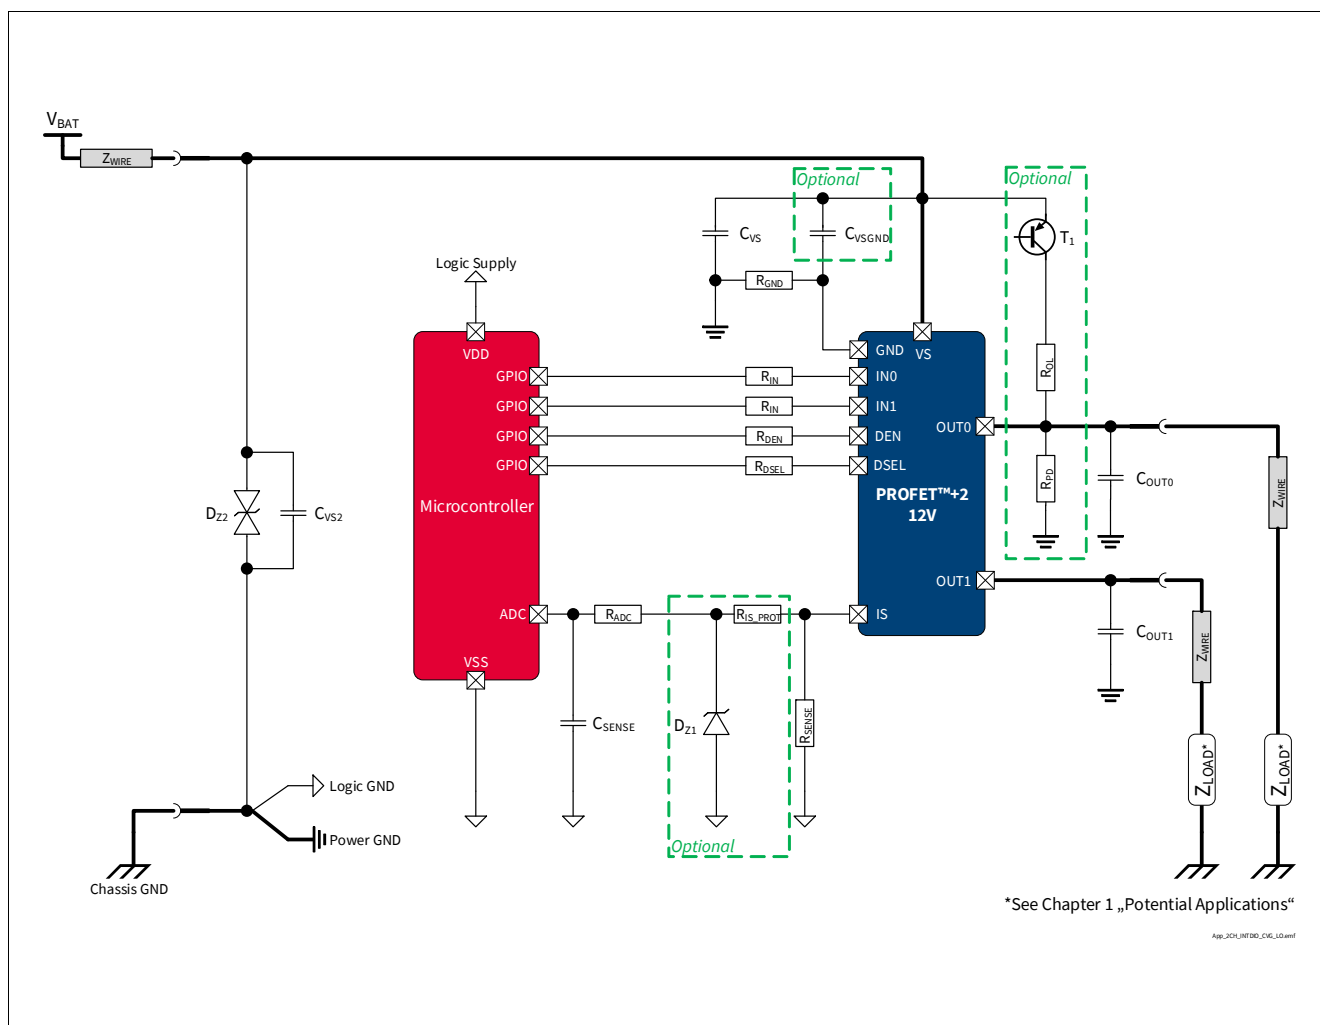

Figure 43 BTS7020-2EPA Application Diagram
1.05 , 2019-10-15	P_8.7.4.1, P_8.7.4.7, P_8.7.4.8 updated (added in Note or Test Condition: link to Figure 25) P_7.5.4.4, P_7.5.4.5 updated (added in Note or Test Condition: DEN = “low”; link to Figure 19) P_7.5.4.12 updated (added in Note or Test Condition: see Figure 21; deleted unnecessary space in Symbol: dVOUT / dt → dVOUT / dt) P_8.7.4.6 updated (added in Note or Test Condition: see Figure 26) P_9.7.4.1 updated (added in Note or Test Condition: See Figure 34) P_9.7.4.6 updated (Min./Max.: -45%/+45% → -29.5%/+29.5%) P_9.7.4.9 updated (Min./Max.: -38%/+38% → -24.0%/+24.0%) P_9.7.4.12 updated (Min./Max.: -34%/+34% → -23.5%/+23.5%) P_9.7.4.15 updated (Min./Max.: -22%/+22% → -12.0%/+12.0%) P_9.7.4.17 updated (Min./Max.: -9%/+9% → -7.3%/+7.3%) P_9.7.4.19 updated (Min./Max.: -6%/+6% → -4.1%/+4.1%) P_9.7.4.21 updated (Min./Max.: -5%/+5% → -3.7%/+3.7%) P_7.5.4.11 updated (added in Note or Test Condition: see Figure 19) Figure 1, Figure 43 updated Chapter 1 updated (or LED equivalent → or equivalent electronic loads (e.g. LED modules)) P_4.3.0.7 added Table 24 updated Chapter 5.1 updated (added: see Chapter 10 for the complete application setup overview)